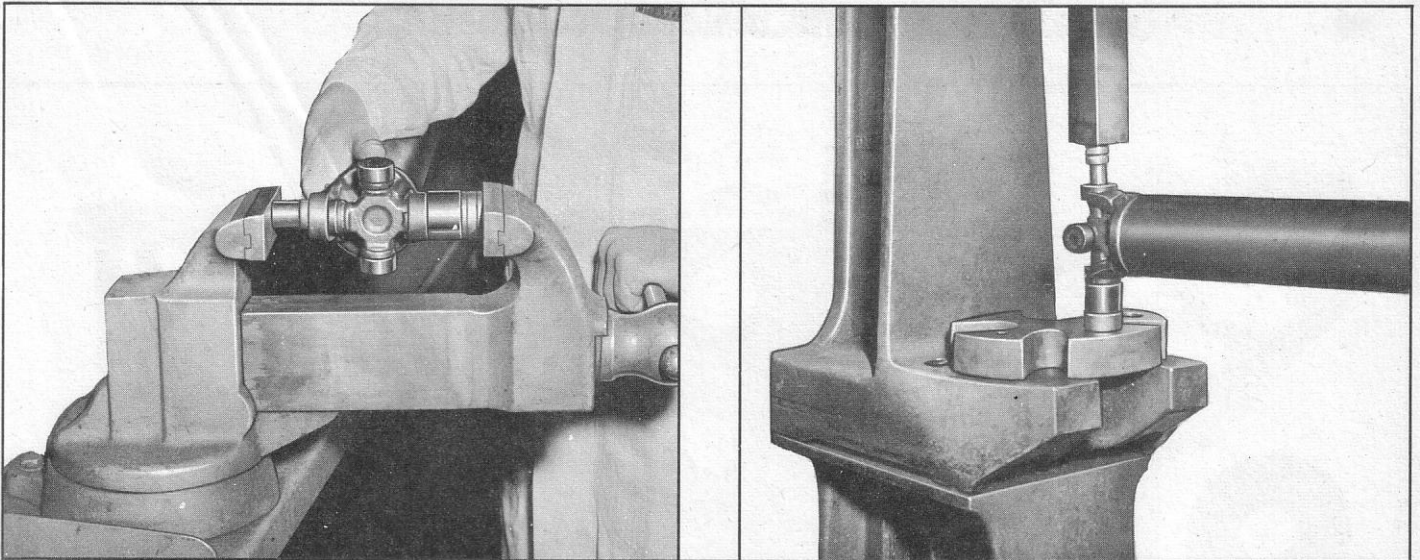

Fig. 45—Removing Bearing Cup
3. Using suitable socket or rod, press trunnion down far enough to drive opposite bearing cup from yoke (fig. 45).